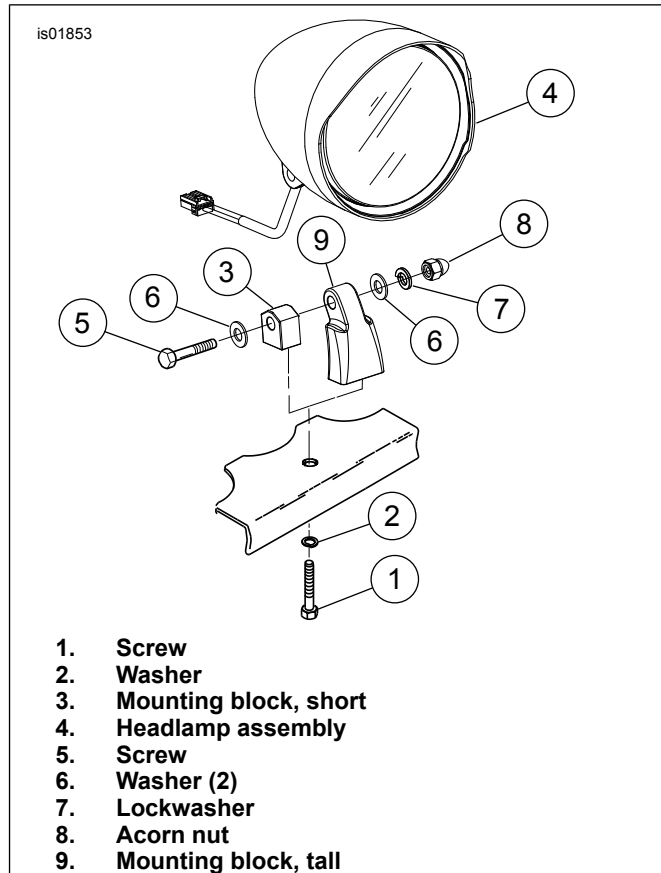

Figure 8. Billet Headlamp Assembly with Short/Tall Mounts
1. *Softail and 1994-2005 FXDWG Models:* See Figure 8. Loosely install vertical adjusting screw (1) from kit and washer (2) previously saved. *2000-Later FXSTD Models:* See Figure 8. Loosely install vertical adjusting screw (1) and washer (2) previously saved.
2. Loosely install mounting block (3) and billet headlamp (4) using horizontal adjusting screw (5), washers (6), lockwasher (7), and acorn nut (8).
1. See Table 1 and Figure 8. Loosely install vertical adjusting screw (1) and washer (2) previously saved.
2. Loosely install mounting block (9) and billet headlamp (4) using horizontal adjusting screw (5), washers (6), lockwasher (7), and acorn nut (8).